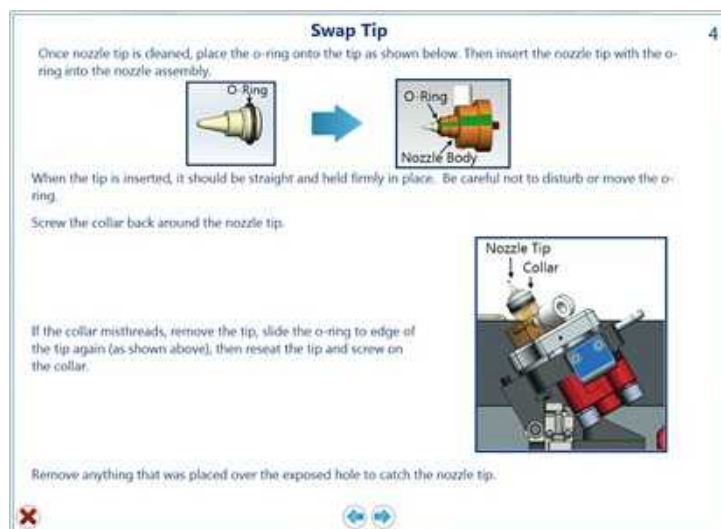

Fig. 116. AutoGimbal Swap Tip window.
17. Place the O-ring at the edge of the base of the nozzle tip (Figure 116).